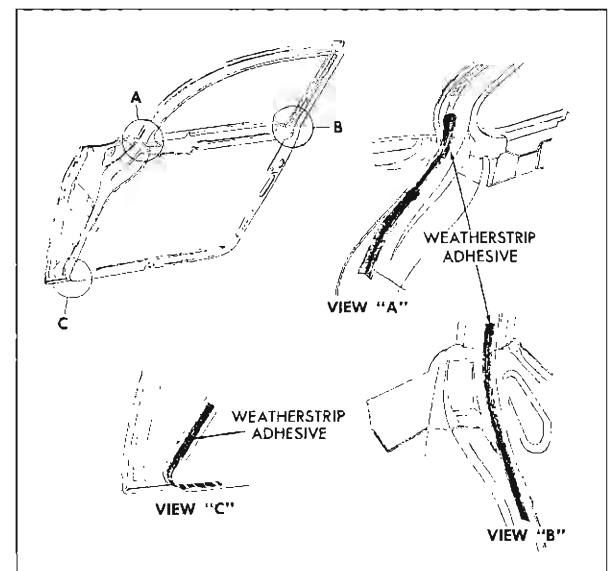

Fig. 3-16 Weatherstrip Adhesive Application
1. Carefully break cement bond securing weatherstrip to door. If necessary, a flat-bladed tool, such as a putty knife, can be used to help break cement bond (See Fig. 3-16).
2. Clean off old cement from door to insure a clean cementing surface. Apply a bead of an approved weatherstrip adhesive to hinge and lock pillar facing of door. Begin adhesive application slightly above belt line and continue down door for approximately seven to nine inches. If necessary, weatherstrip adhesive can also be applied to lower forward corner of door (See Fig. 3-16).